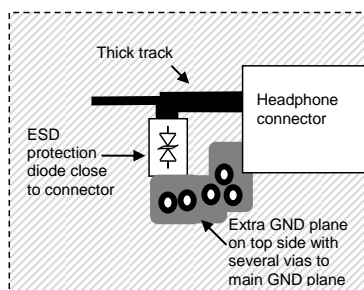

Figure 3 Best practice of top side GND plane between ESD diode and connector
3. The ESD protection device must have a short return path to ground to reduce inductance. A good way to achieve this is to place a pair of GND vias as close as possible to the GND pin of the ESD protection device and the GND pin of the connector, as shown in Figure 2. The double via technique reduces inductance. The best way to achieve it is a GND plane added to the top side of the PCB, to link the ESD diode and connector, as shown in Figure 3. This top side plane must have several vias to the main PCB GND plane in case the discharge path from the connector goes to another part of the end-product.
6. Figure 2 and Figure 3 below summaries the above suggestions